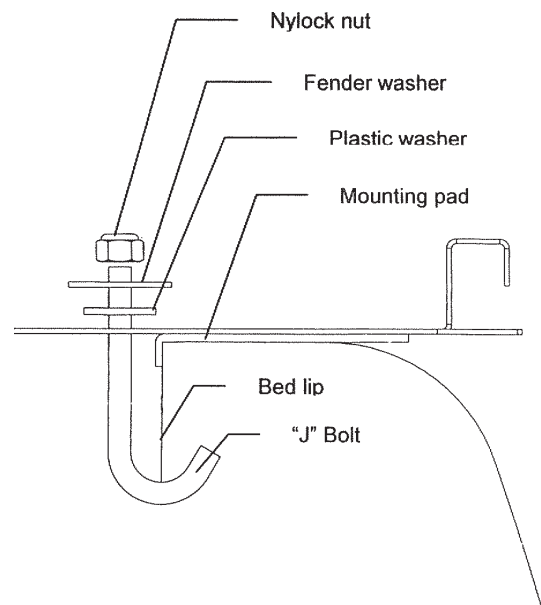

Fig. 3
**11.** Fasten the legs to the toolbox and install the box into the truck bed. Fasten the leg feet to the floor and install the "J" bolts as shown in Figure 3.